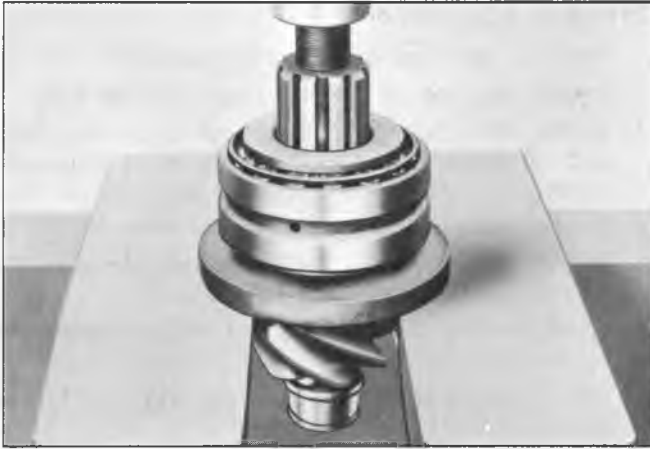

Fig. 5F-- Drive Pinion Front Bearing Removal--5200, 7200 lb. Axle (Typical)
6. On the 5200, and 7200 lb. axles position drive pinion in an arbor press as shown in figure 5F, and press pinion from bearing, using appropriate tool as follows.